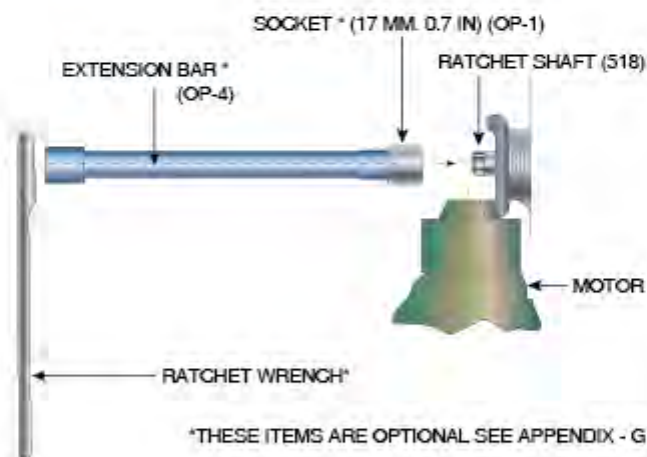

FIG. 15
In the event of no power supply for the motor, the closing spring (502) can be charged by fitting Socket (17mm)* Extension Bar * and Ratchet Wrench * as shown in Appendix G to the hexagonal part of the ratchet shaft (518) as shown in Fig. 15. Turning the ratchet shaft (518) clockwise by the ratchet wrench * until the closing holding latch (504) of fig. 5-1 (A), engages with the pin B (516) will fully charge the closing spring (502).